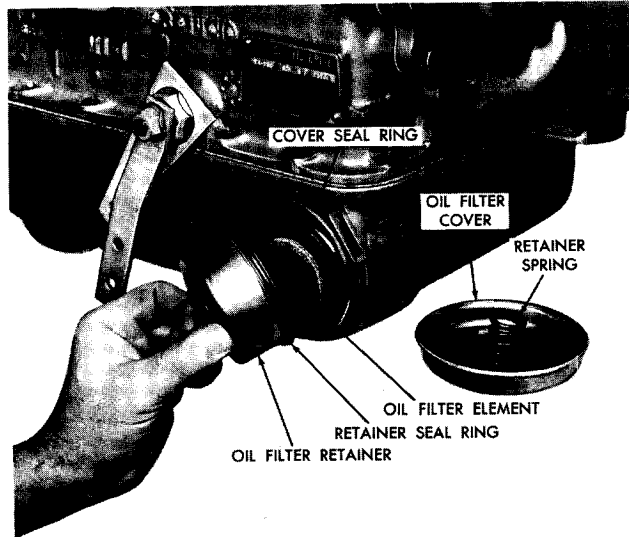

Fig. IV-2 Removing oil filter retainer
c. Carefully remove the oil filter cover to prevent oil "gushing" out. A coil-type retainer spring should remain on a clip in the cover. Discard the cover seal ring (refer to fig. IV-2).
d. Grasp the bail on the filter retainer and remove the retainer by pulling straight out (fig. IV-2). Discard the retainer seal ring.